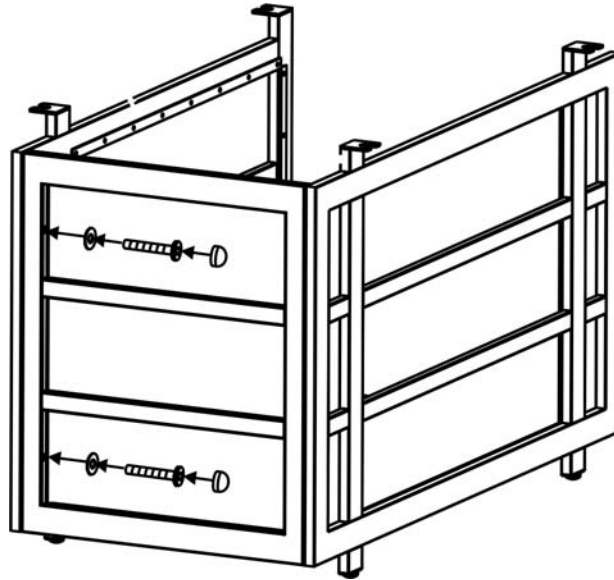

Figure 2
2. Attach the back panel to the side panels by using four 1/4"x40 mm bolts and washers as shown in Figure 2. Guide bolts through holes in back panel, into pre-drilled holes in the side panels. **Hand tighten only.**